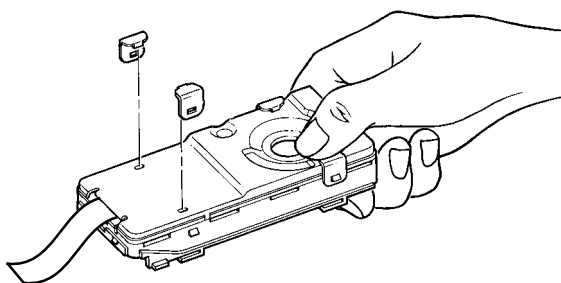

Figure 1-13. Reinsert Locking Clips
6. Hook locking clips first to the chassis tab, then push clips over on shield with thumb until clips lock into front shield holes (Figure 1-13).